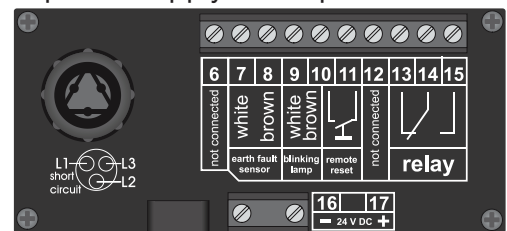

figure 1 - Connectors one relay version
- Connector 13 - 15: SCADA change-over contact (figure 1)